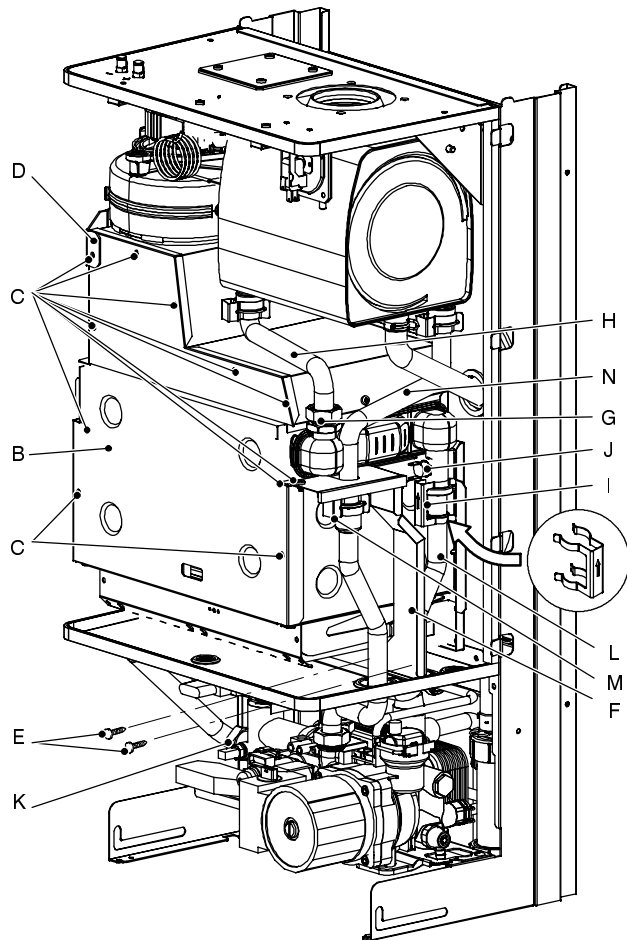

Fig. 11
- 3 Remove the combustion chamber lid **B** by unscrewing the screws **C** and removing the clamp **D** (Fig. 11).
- 11 Reassemble the boiler carrying out the removal operations in reverse order. **Fit the clip **I** with the arrow pointing upwards as illustrated in Fig. 11.**